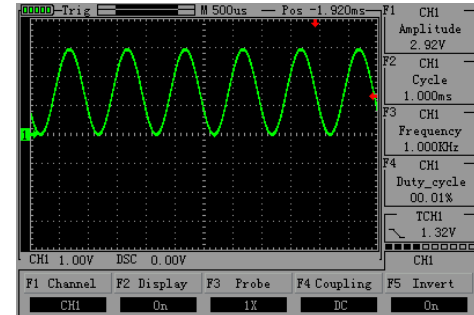

Figure 2-14
- to adjust the channel waveforms of horizontal position. The amplitude changes according to the change of the time base. As figure 2-14